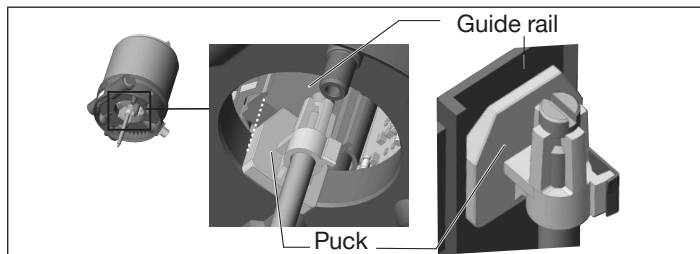

Fig. 5: Aligning the puck
1. the puck can be inserted into the guide rail of the positioner (see “Fig. 5”) and
2. the connection pieces of the positioner can be inserted into the pilot air ports of the actuator (see also “Fig. 5”).